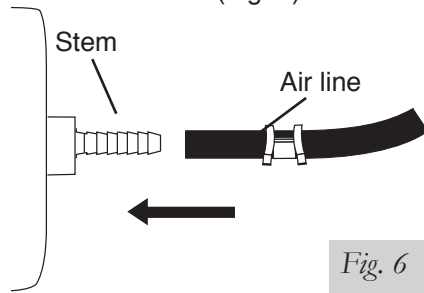

*Fig. 5*
3. Push the air line over one side of the tee until all the barbs are covered. With a pair of pliers, slide the air line clamp forward until it fully covers the barbed section. Repeat entire procedure for other leg of the tee (Fig. 5).